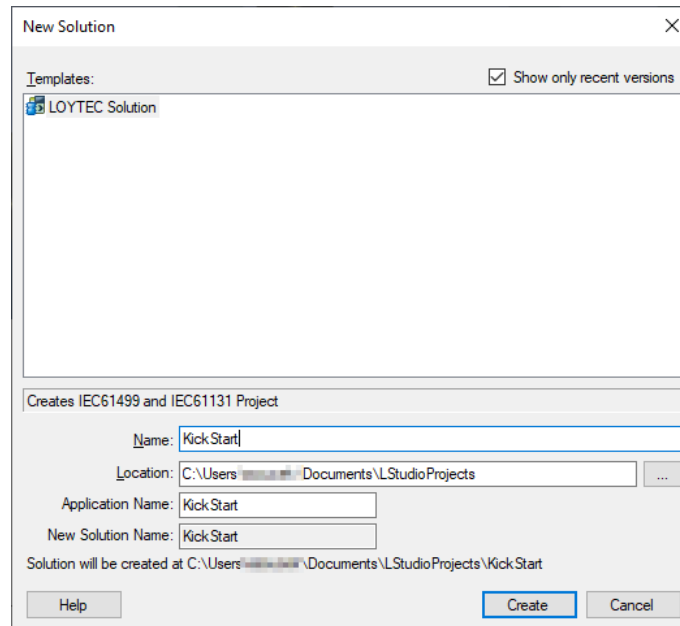

Figure 51: Create a new L-STUDIO solution
2. Create a new solution in menu **File → New → Solution...** and enter a name as shown in Figure 51.